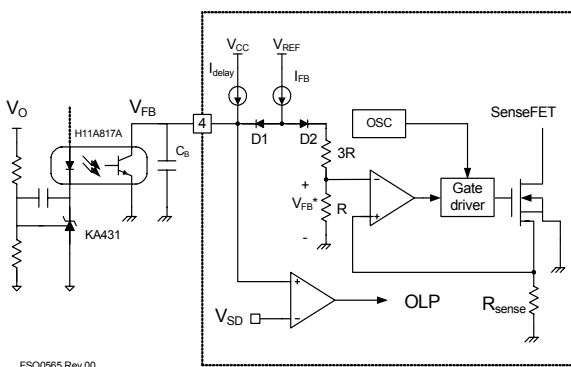

Figure 24. Pulse-Width-Modulation (PWM) Circuit
2. Feedback Control: power switch employs current-mode control, as shown in Figure 24. An opto-coupler (such as the FOD817A) and shunt regulator (such as the KA431) are typically used to implement the feedback network. Comparing the feedback voltage with the voltage across the R_{sense} resistor makes it possible to control the switching duty cycle. When the reference pin voltage of the shunt regulator exceeds the internal reference voltage of 2.5V, the opto-coupler LED current increases, pulling down the feedback voltage and reducing the duty cycle. This typically happens when the input voltage is increased or the output load is decreased.
2.1 Pulse-by-Pulse Current Limit: Because current-mode control is employed, the peak current through the SenseFET is limited by the inverting input of PWM comparator (V_{FB}^*), as shown in Figure 24. Assuming that the 0.9mA current source flows only through the internal resistor ($3R + R = 2.8k$), the cathode voltage of diode $D2$ is about 2.5V. Since $D1$ is blocked when the feedback voltage (V_{FB}) exceeds 2.5V, the maximum voltage of the cathode of $D2$ is clamped at this voltage, clamping V_{FB}^* . Therefore, the peak value of the current through the SenseFET is limited.